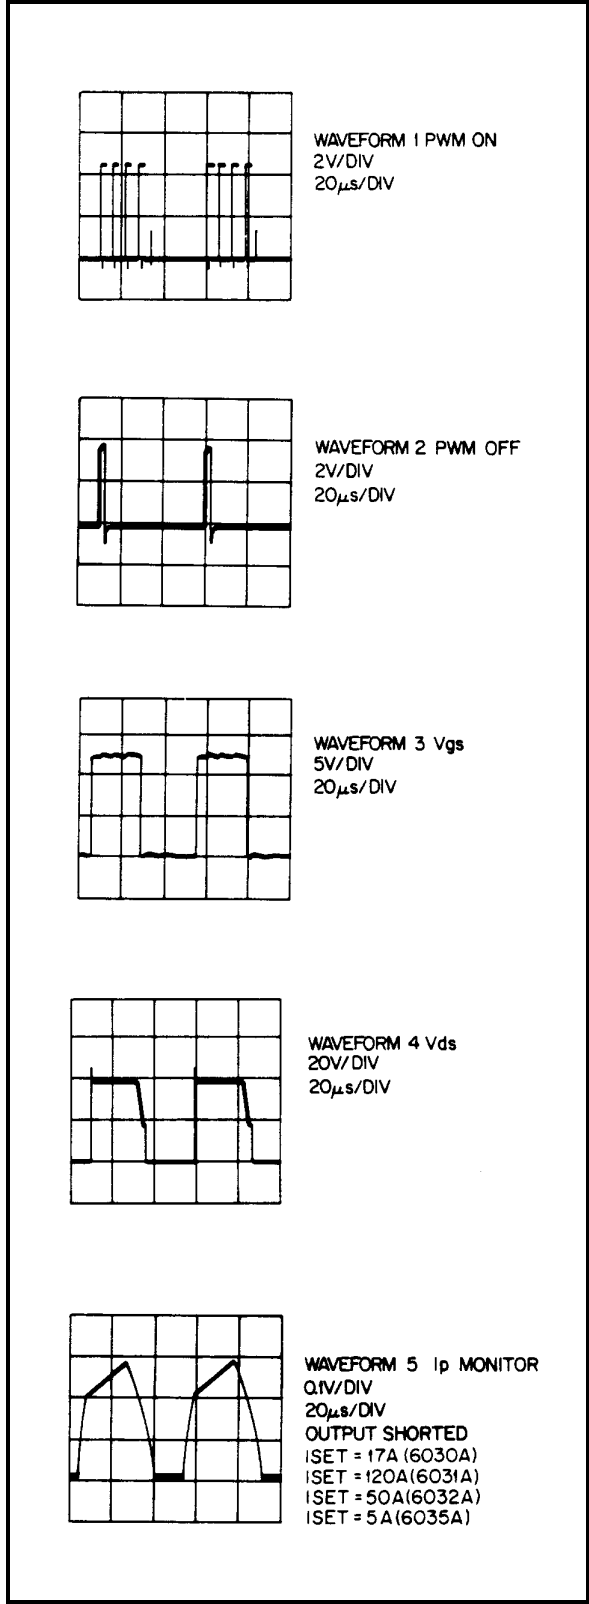

Figure 3-7. Waveforms
**Setup.** The Main Troubleshooting Setup, Paragraph 3-40. Apply the ac mains voltage to the isolation transformer, set the external supply to 40Vdc, and switch on the LINE switch. Set the unit's output voltage to 20Vdc and current to above 1Adc. Using the DISPLAY SETTINGS switch. Verify that the OVERRANGE LED lights. See Figure 3-7 for waveforms.